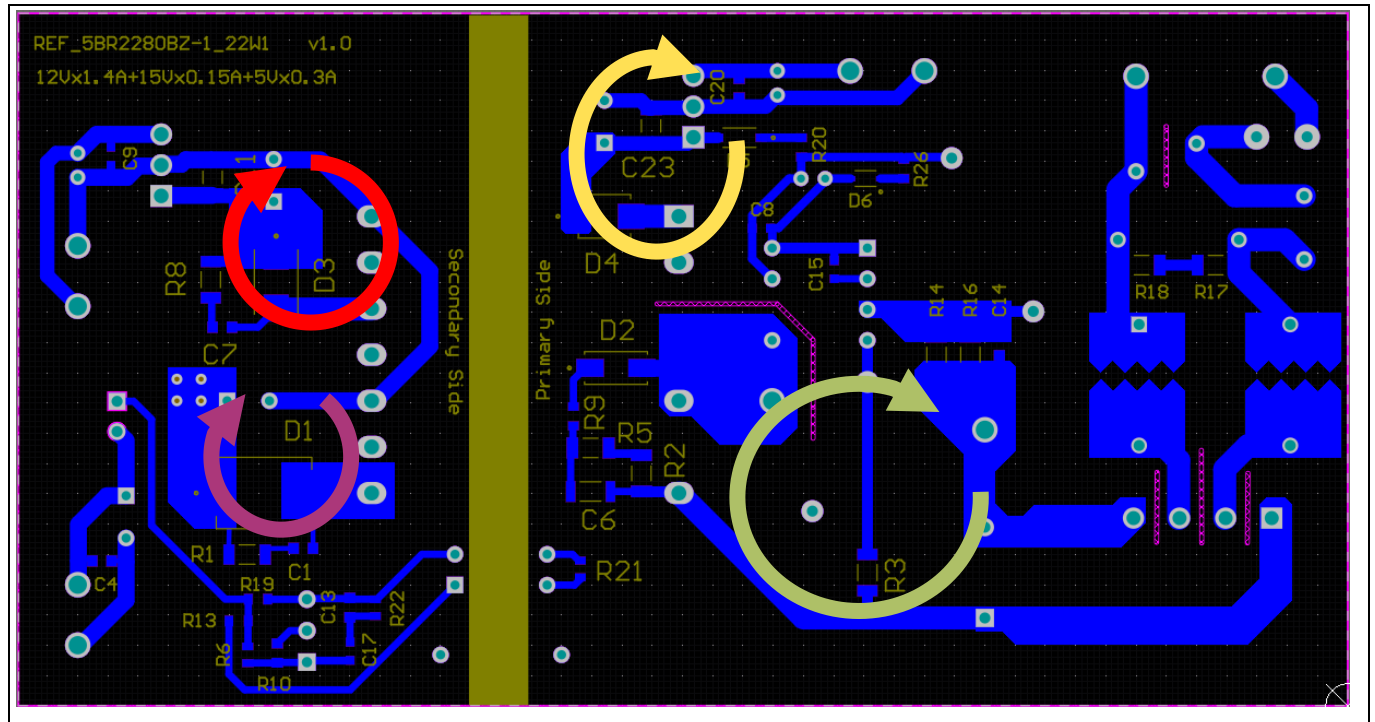

Figure 5 PCB layout tips
- The switching power loop needs to be as small as possible (see Figure 5). There are four power loops in the reference design; one on the HV side and three on the output side. The HV side loop starts from the bulk capacitor (C5) positive terminal, primary transformer winding (pin 7 and pin 5 of TR1), CoolSET™ switching controller, CS resistors, and back to the C5 negative terminal.